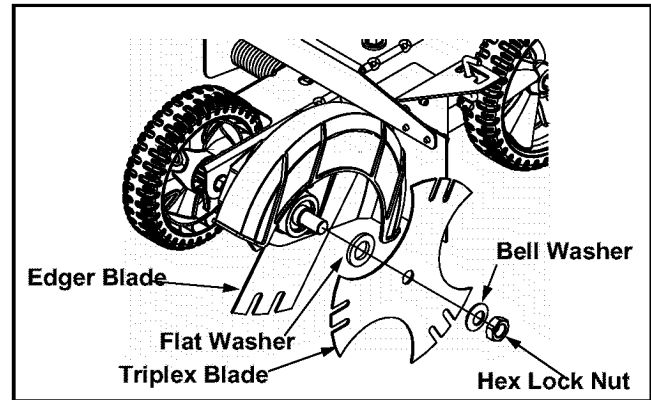

Figure 11
- Secure with the bell washer and the hex lock nut removed earlier. See Figure 11.